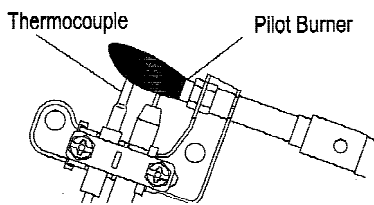
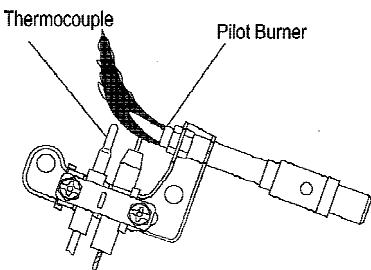
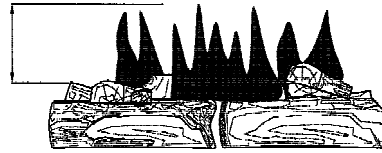

Figure 15 -Correct Pilot Flame Pattern
Figure 16 -Incorrect Pilot Flame Pattern
Figure 18 -Incorrect Flame Pattern with Control Knob Set to High Flame
- Press the IGN/OFF button.(see figure 15)
Figure 15 shows a correct pilot flame pattern. Figure 16 shows an incorrect pilot flame pattern. The incorrect pilot flame is not touching the thermocouple. This will cause the thermocouple to cool. When the thermocouple cools, the heater will shut down. If pilot flame pattern is incorrect, as shown in Figure 18
Figure 17 shows a correct burner flame pattern. Figure 18 shows an incorrect burner flame pattern. If burner flame is incorrect: